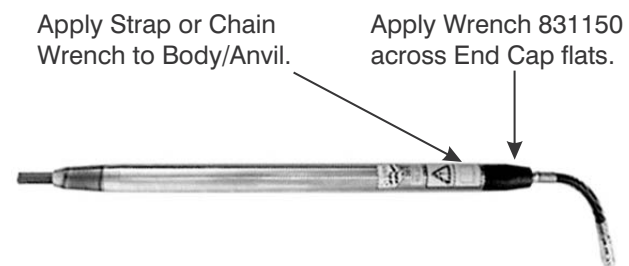

Figure 8-2. Loosening the End Cap.
1. Place the Hole-Hog on a level surface. Holding the Hole-Hog body with a strap wrench, use wrench P/N 831150 from the Tool Kit to loosen the End Cap (16). It may be necessary to strike the wrench handle several times with a hammer to loosen the End Cap. Refer to Figure 8-2.